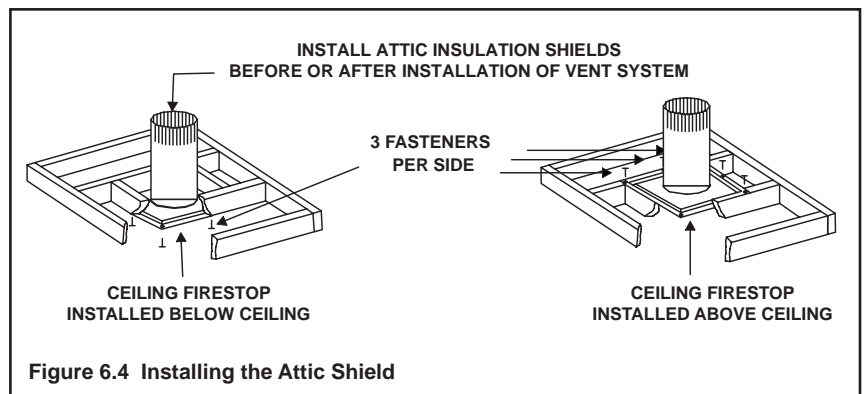

Figure 6.4 Installing the Attic Shield
- The ceiling firestop may be installed above or below the ceiling joists when installed with a attic insulation shield. It must be under joists between floors that are not insulated. Refer to Figure 6.4.